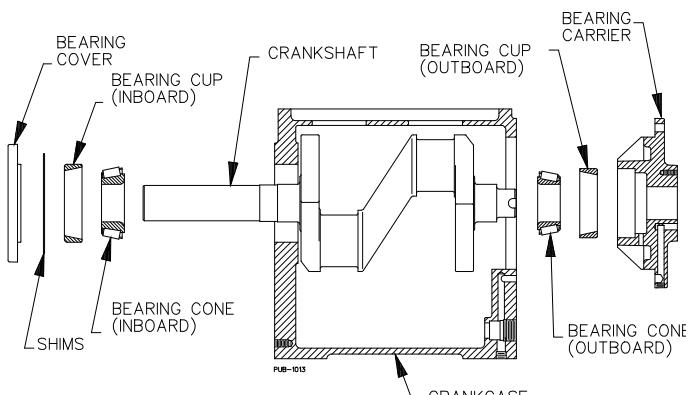

Figure 21 - Bearing Locations
- Note the proper orientation in Figure 21 and carefully press the inboard bearing cup into the crankcase until it is flush with the outer surface of the crankcase.